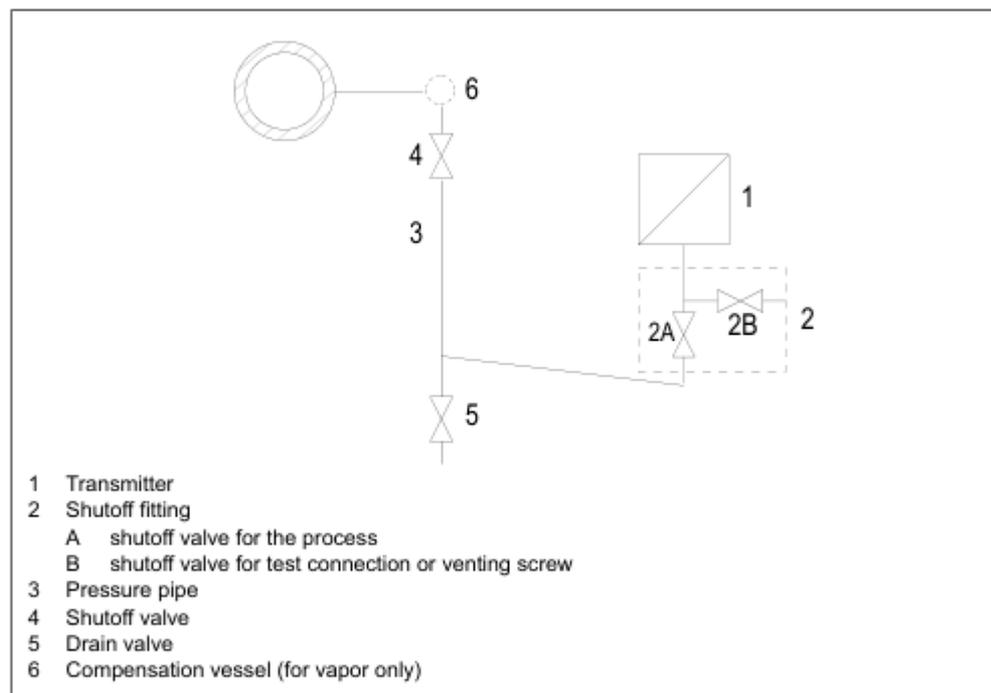

Figure 40 Measuring vapor
1. Open the shutoff valve (2B, Figure 40, pg. 98).
2. Apply pressure corresponding to the start of scale through the test connection of the shutoff fitting (2) to the transmitter,
5. Open the shutoff valve (4) on the pressure tap.